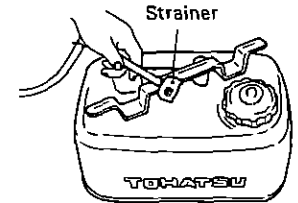

Fig. 21 Checking the strainer
- Check the strainer in the fuel tank. (M5BS) (Fig. 21)